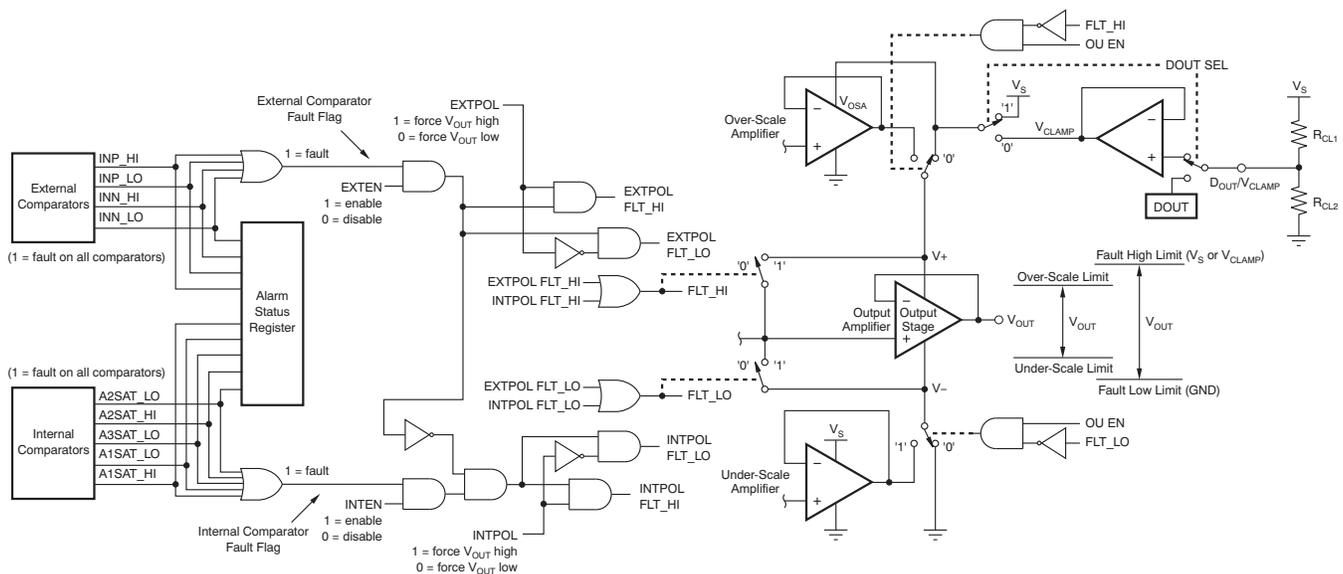

Figure 3-16. Fault Monitor Logic and Fault Level Selection
(1) See Figure 3-16 for the logic that generates FLT_HI and FLT_LO.
When enabled by the OU EN bit (CFG1 Register [D6]), the Over-Scale and Under-Scale amplifiers can be viewed as acting as the power-supply rails for the Output Amplifier. Therefore, under non-fault conditions, V_{OUT} of the PGA308 cannot swing outside of the Over-Scale and Under-Scale limits. The Over-Scale and Under-Scale amplifiers can be overridden by the Fault Monitor Circuitry to force the minimum level of V_{OUT} to ground, if FLT_LO is logic 1 (see Figure 3-16, *Fault Monitor Logic and Fault Level Selection*).
The maximum level of V_{OUT} can be forced to go above the Over-Scale limit when a fault is detected by the FLT_HI signal going to logic 1 (see Figure 3-16, *Fault Monitor Logic and Fault Level Selection*). When FLT_HI is logic 1, V_{OUT} is determined by the status of the DOUT SEL bit (CFG2 Register [D8]). If DOUT SEL is logic 0, then the V_{CLAMP} circuit is selected and V_{OUT} maximum is set by an external resistor divider or voltage source connected to the D_{OUT}/V_{CLAMP} pin. Note that in this mode, V_{OUT} max is limited to V_{CLAMP} regardless of whether or not the Over-Scale threshold is set higher than V_{CLAMP} , as shown in Figure 3-11, where V_{OSA} is the Over-Scale amplifier positive power supply. If DOUT SEL is logic 1, the V_{OUT} maximum is determined by V_S minus the saturation voltage of the Output Amplifier output stage.
Figure 3-16 provides an equivalent logic diagram of the PGA308 fault monitor logic and fault selection functions. Each individual Internal and external fault comparator output can be read through the One-Wire interface. The current results are stored in the ALRM Register [D8:D0] with the respective bit names corresponding to the fault comparator outputs as detailed in Figure 3-12 and Figure 3-16.
Refer to Figure 3-16 for the following detailed discussion of selecting and using the Fault Monitor Logic and Fault Selection functions.
The external comparator fault flag has priority over the internal comparator fault flag, as shown in Figure 3-16. For example, if the internal fault comparator group is set to force V_{OUT} to a low fault and the external fault comparator group is set to force V_{OUT} to a high fault, and both groups detect a fault (which is possible if both are enabled), then the external fault comparator group takes precedence and V_{OUT} is forced to a high fault, indicating a sensor fault was detected. This detection priority ensures that for most real-world applications, a critical sensor fault will be reported as a priority over an internal node violation. At the time of a detected fault, the fault logic always prevails (if enabled), and will override the linear output or the Over-Scale or Under-Scale limits (if enabled) to indicate a fault on V_{OUT} as a high fault level or a low fault level.